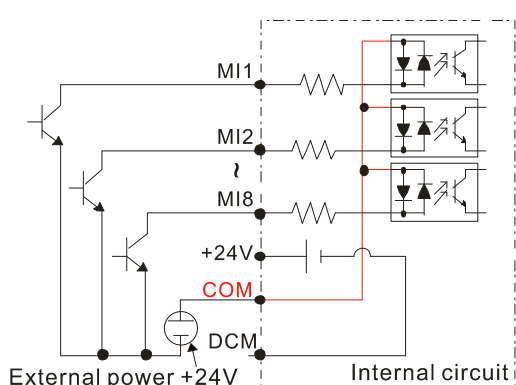
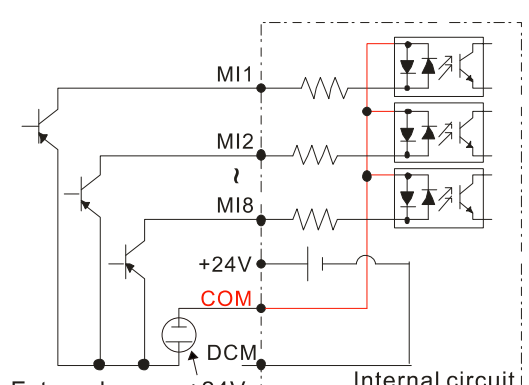

Figure 6-4
Figure 6-5
- When the photo-coupler uses the external power supply, remove the short-circuit cable between +24V and COM terminals. The switch connection for Sink and Source modes shows as Figure 6-4 and Figure 6-5: